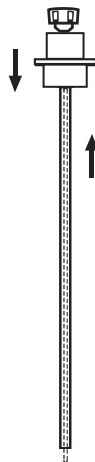

Figure 20
10. Secure inner tube assembly. Lightly tap drive shaft up through inner tube assembly (see Figure 20).